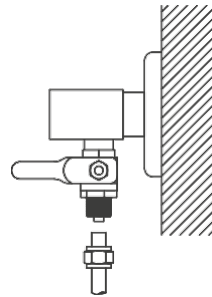

Fig. 8: Water inlet valve
- By opening the 1/4" ball valve, the tap water is supplied to the system (Fig. 8). The pump starts working.
If there is no one in the house, we recommend that you close the water inlet valve for safety reasons (Fig. 8).